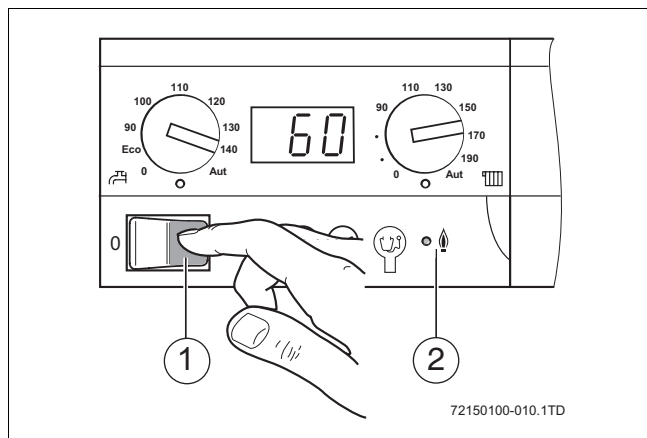

Fig. 11
- ▶ Switch on the heating system by setting the main switch  to position "1" (→ fig. 11, page 10).
- ▶ Switch on the heating system using the main switch (→ fig. 11).